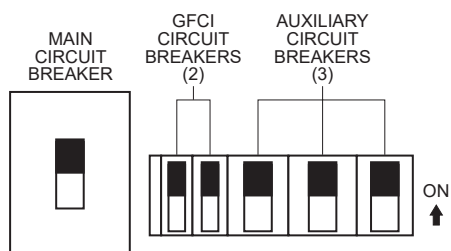

Figure 59. Main, Auxiliary, And GFCI Circuit Breakers (ON)
12. Place the **main, auxiliary, and GFCI circuit breakers** in the **ON** position (Figure 59).